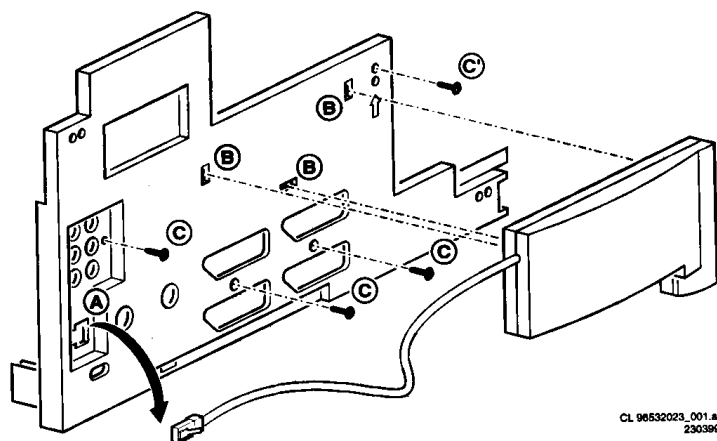

Figure 4-5
1. Remove the cable of the Wireless Surround Transmitter box at location A (see figure 4-5). At the left side of this plug there is the release-hook of the lock-mechanism.